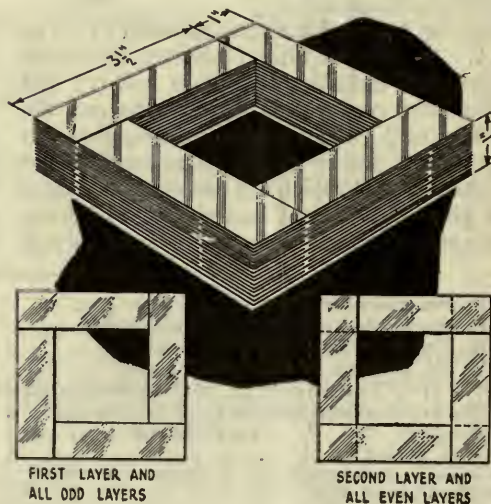
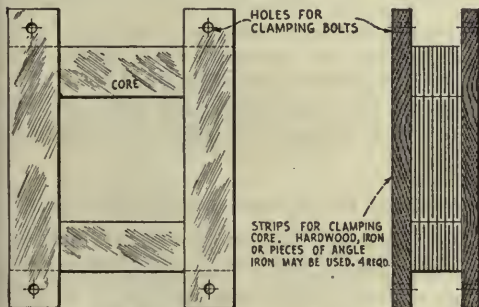

FIG. 2
FIG. 3
Strips 1 inch x  $3\frac{1}{2}$  inches are cut from the steel with a pair of tinner's shears to make a pile about 4 inches high when they are pressed together. This pile will require about 300 pieces, which can be assembled in the manner shown in Fig. 2. It may occur that the laminations procured from the old power transformer have dimensions very near to those given here, and in such a case, they may be used as they are. A variation of 10 per cent. plus or minus will not be of consequence. When the strips have been prepared, they are laid aside ready for use after the transformer windings have been completed.
**A**FTER the windings have been completed and properly numbered with tags, the steel strips may be inserted in the spools and the core clamped together. It will be best to alternate the position of the lapped corner, every time a new layer of laminations is applied, as shown in the small sketches of Fig. 2. When near the top of the pile, compress the core as much as possible, and squeeze in as many strips as can be forced into the spools. After all the laminations have been put in the core, it is ready for the clamping plates. These are made of strap iron or hard wood, as shown in Fig. 3. Four strips are cut to the size required by the core, leaving at least one-half inch at each end for clamping holes. Stove bolts are passed through these holes, which may be drilled with a  $\frac{1}{4}$  inch drill, and